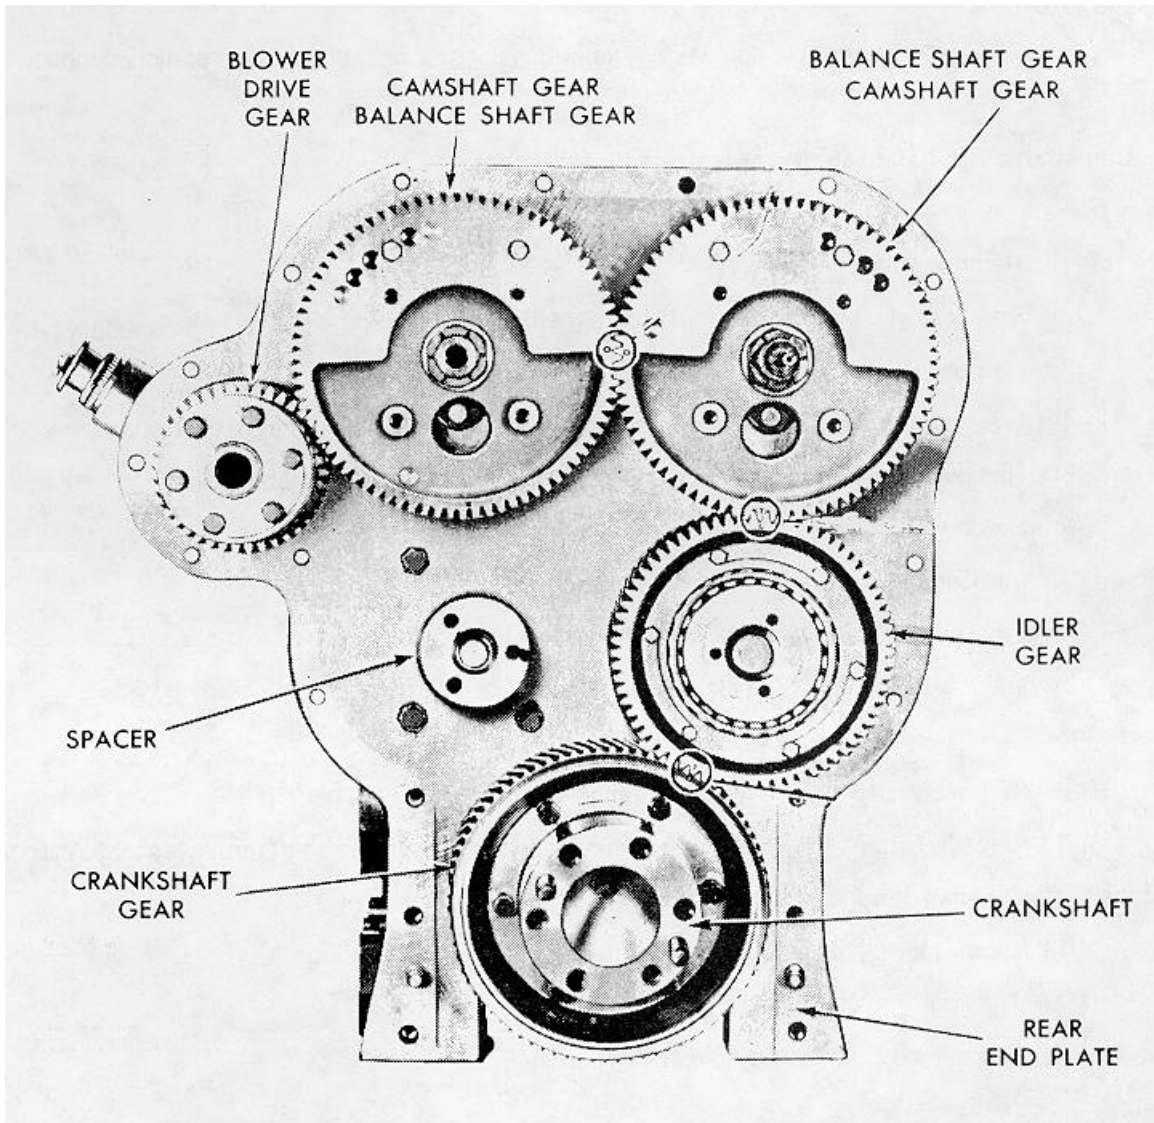

Figure 6-23. Gear Train.
- (1) A completely enclosed train of five helical gears (Figure 6-23) is located at rear of engine. A gear bolted to crankshaft flange drives camshaft and balance shaft gears, as well as blower drive gear, through an idler gear mounted between crankshaft and balance shaft gears.
(2) Camshaft and balance shaft gears mesh with each other and run at same speed as crankshaft gear. Since these two gears must be in time with each other, and two as a unit in time with crankshaft gear, letter "O" is stamped on one tooth of one of gears (Figure 6-23) with a corresponding mark on root of mating teeth of other gear.
(3) Camshaft and balance shaft gears are keyed to their respective shafts and held securely against shoulder on shaft by a nut.
(4) Idler gear rotates on a double-row, tapered roller bearing mounted on a stationary hollow hub.